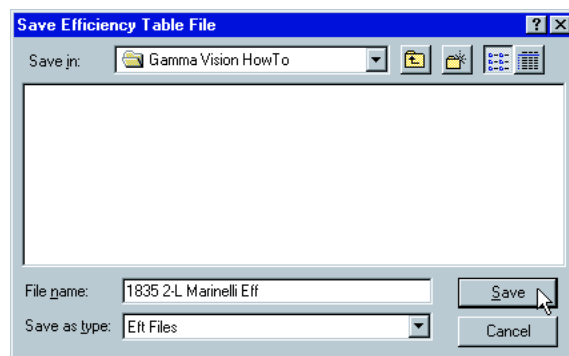

Fig. 26
1.25 To save the efficiency calibration, click **Save** in the **Calibr** window, browse to the working directory, name the file, and click **Save** (Fig. 26).